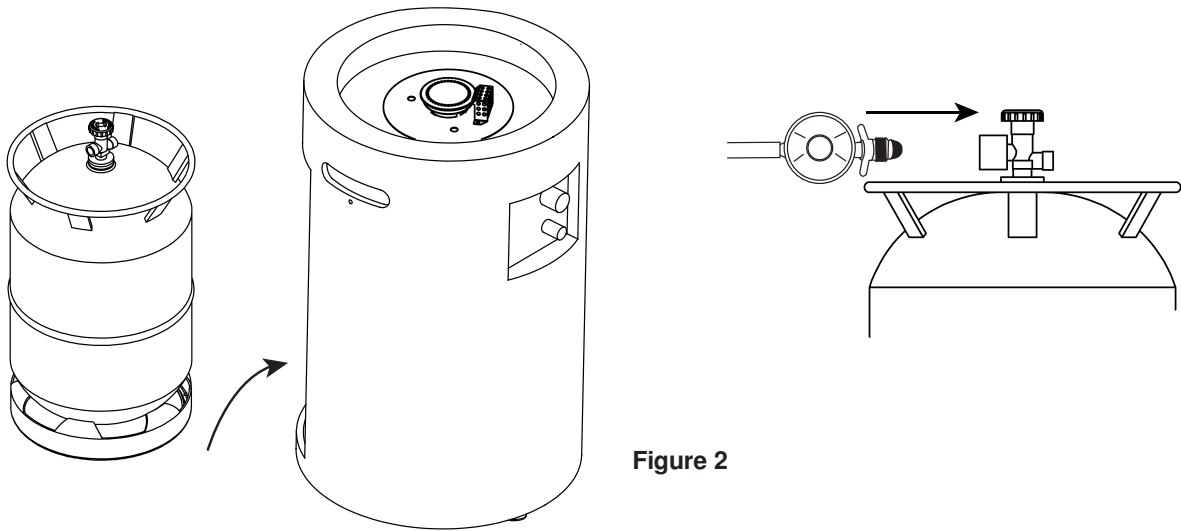

Figure 2
3. Place the gas tank inside the fire pit base. Connect the regulator to the tank valve and tighten securely.(see Figure 2)